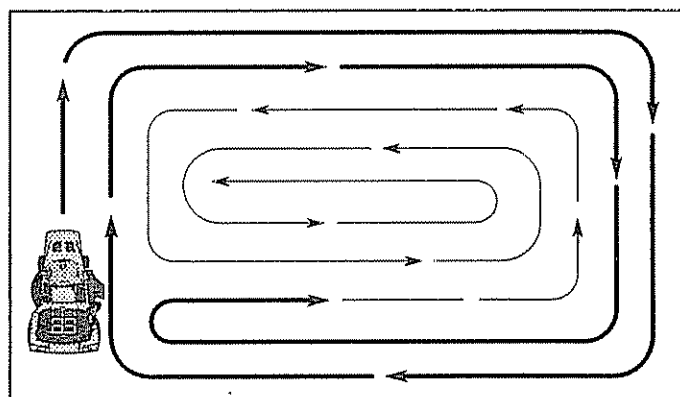

FIG. 15
- When mowing large areas, start by turning to the right so that clippings will discharge away from shrubs, fences, driveways, etc. After one or two rounds, mow in the opposite direction making left hand turns until finished (See Fig. 15).